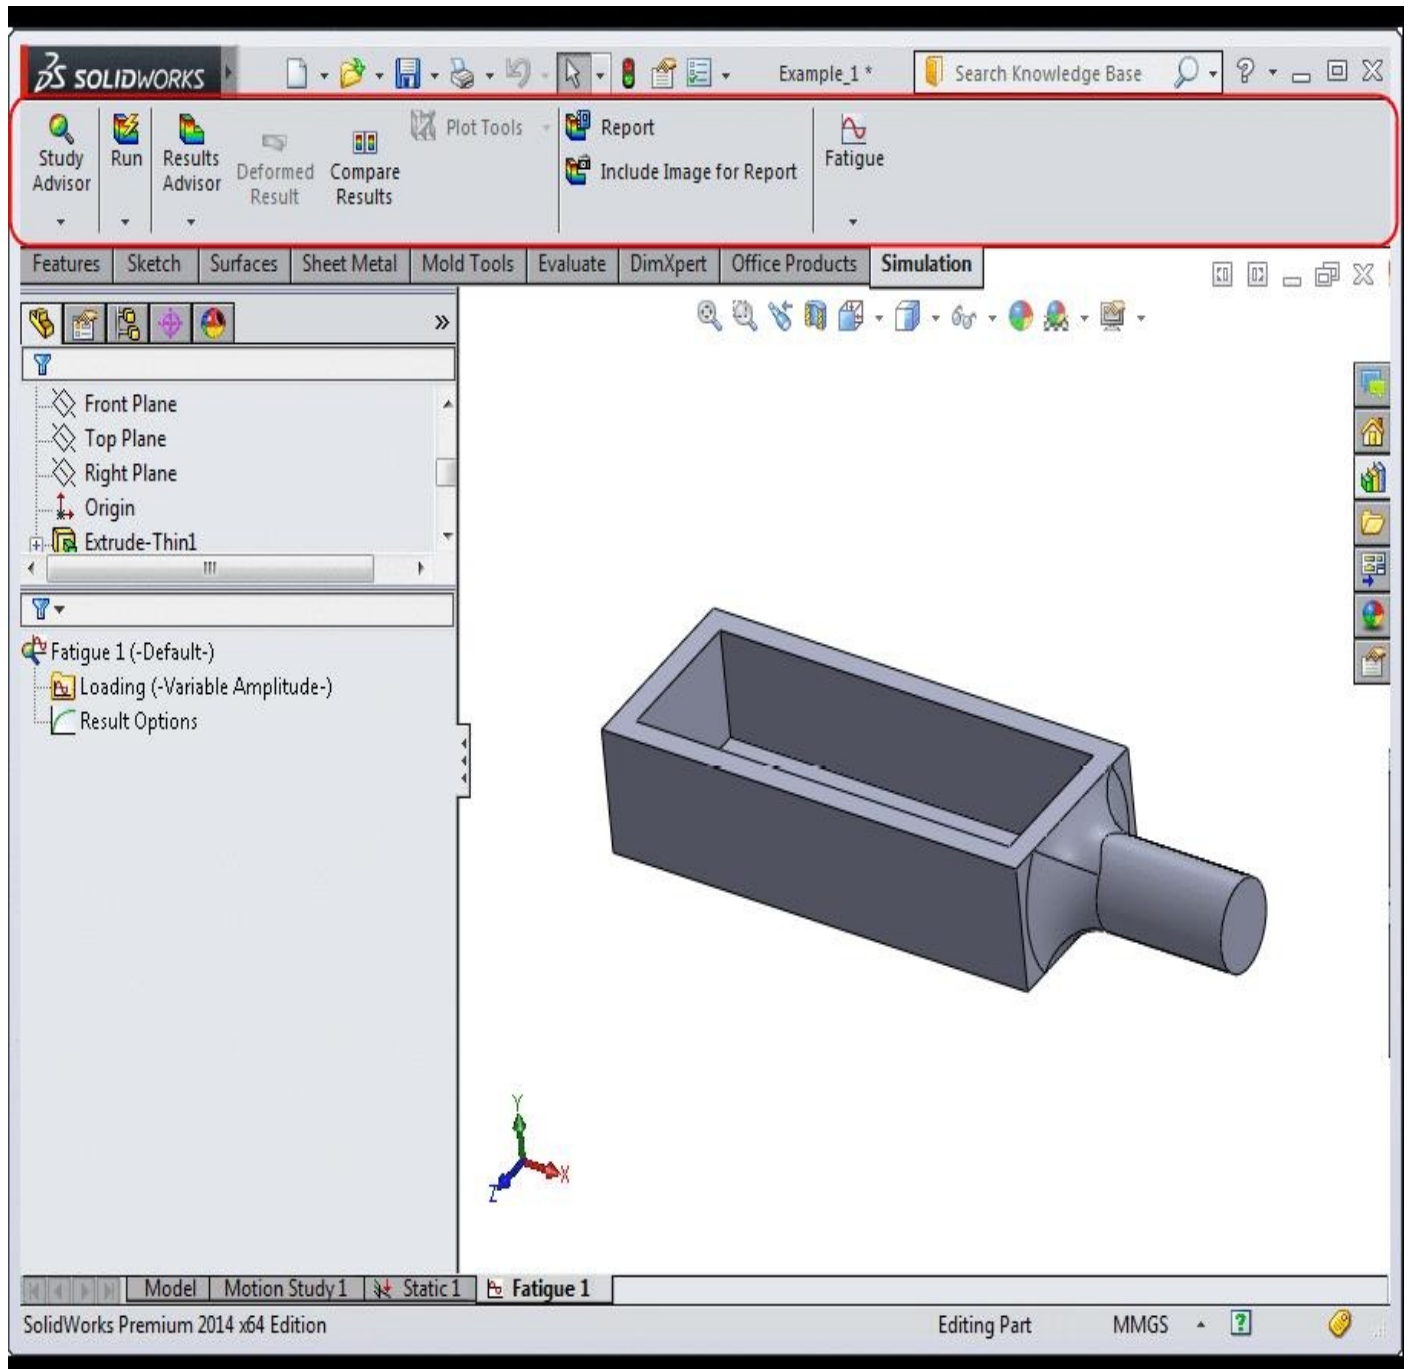

Figure-3. Tools for fatigue analysis
- Click on the **OK** button from the **PropertyManager** to start the analysis. The tools related to fatigue analysis will be displayed; refer to Figure-3.